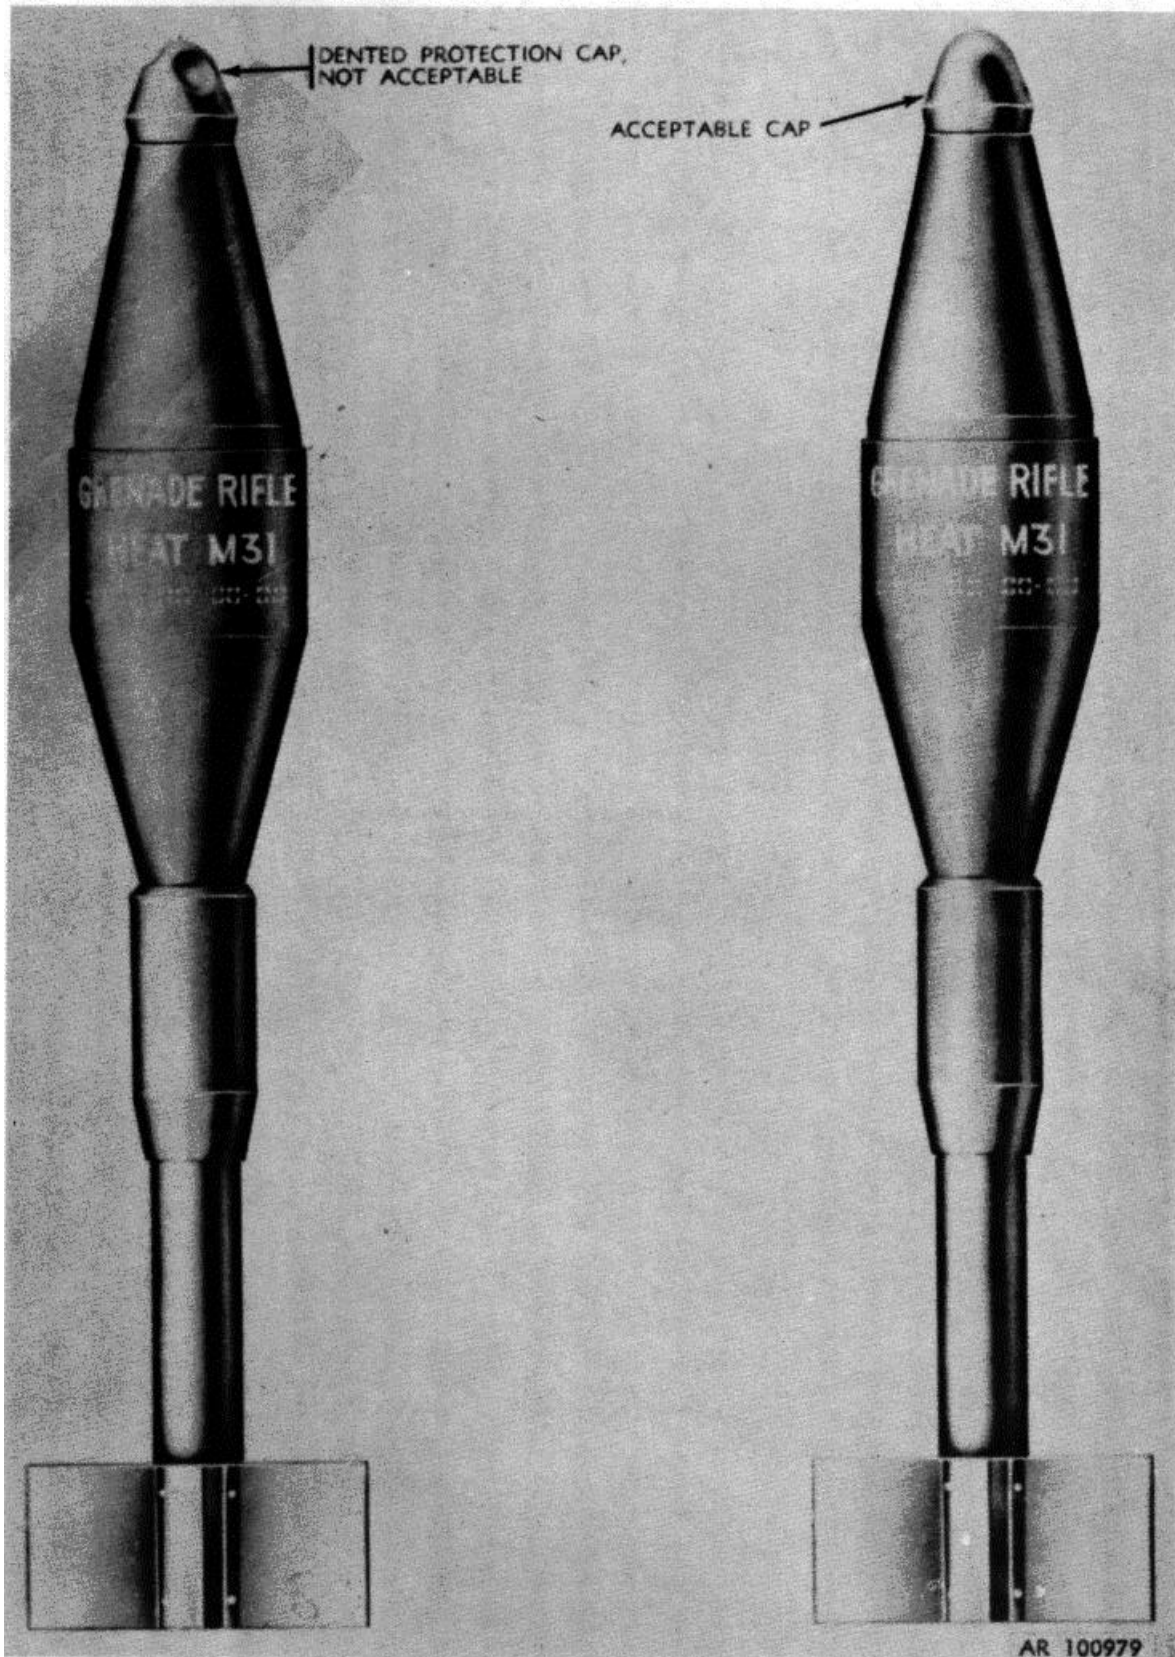

Figure 3-7. Acceptable and dented nose protection caps.
(1) Rust or corrosion on body and stabilizer. Lightly rusted or corroded grenade bodies are serviceable and may be launched. A grenade with any rust or corrosion on the stabilizer is unserviceable and should be turned over to authorized disposal personnel. A grenade with a dented nose projection cap is unserviceable and should be turned over to authorized disposal personnel.
(2) Moisture on inside of stabilizer tube.
(3) Condition of nose protection cap (fig. 3-7).
(4) Presence of safety clip (Rifle Grenades M22 Series) and presence of safety wire (Rifle Grenades M19A1). Absence of these items is a critical defect and ammunition disposal personnel should be notified.
(5) Presence of tape in nose vent (Rifle Grenades M23 Series) and presence of nose closing plug (Rifle Grenades M22 Series).